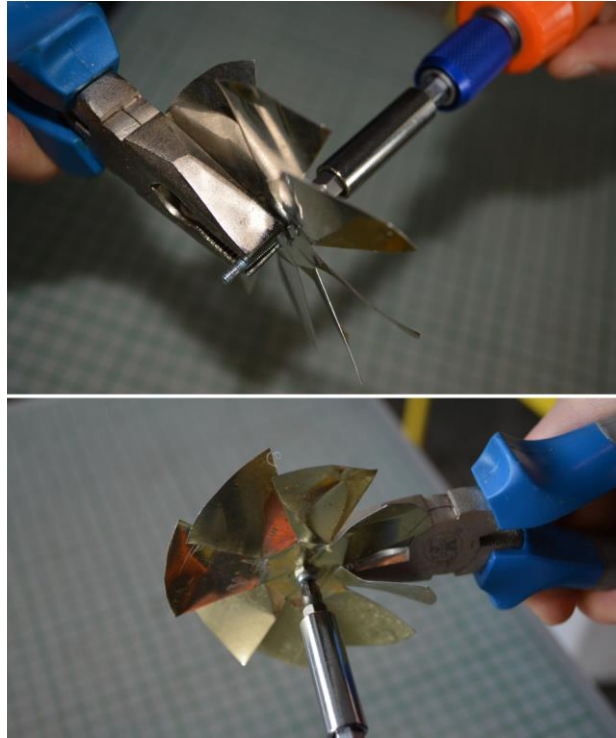

Figure 24
- Force the screw through the hole of the fan you created in the previous step. Secure the screw in the fan by using a nut and washer, like in Fig.24.